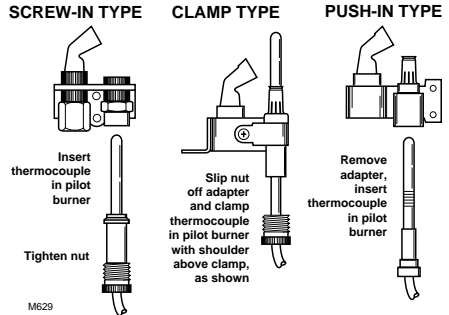

Fig. 1. Q340 Thermocouple installation.
3. Follow the applicable installation instructions in Fig. 1.